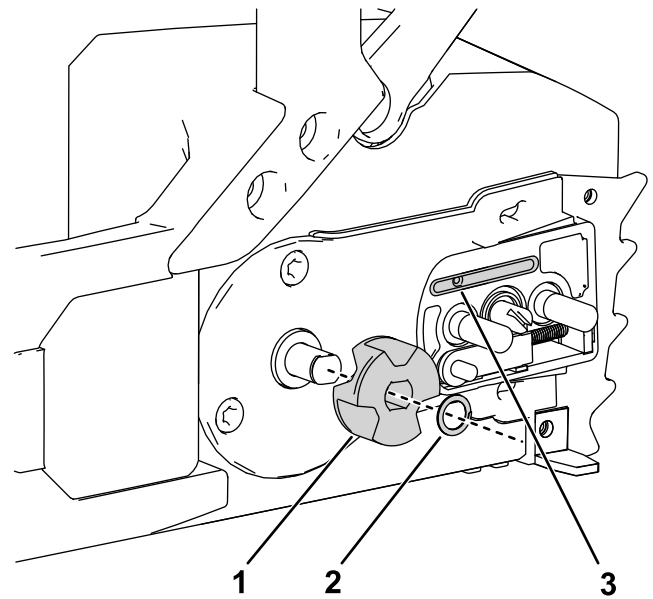

**Figure 31**
5. Using the onboard multitool, loosen the captive nuts on the side cover, but do not remove it (Figure 31).
7. Using the onboard multitool, adjust the chain tension, and then secure the side cover to the chain saw by tightening the captive nuts (Figure 31).
2. Remove the side cover by loosening the 2 captive nuts that secure the cover (Figure 31).
3. Loosen the chain by turning the chain-tightening screw counterclockwise (Figure 31).